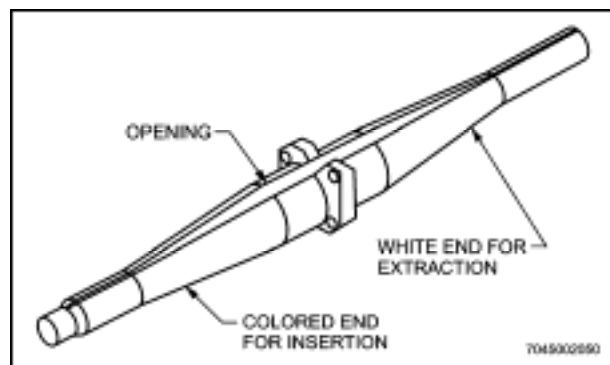
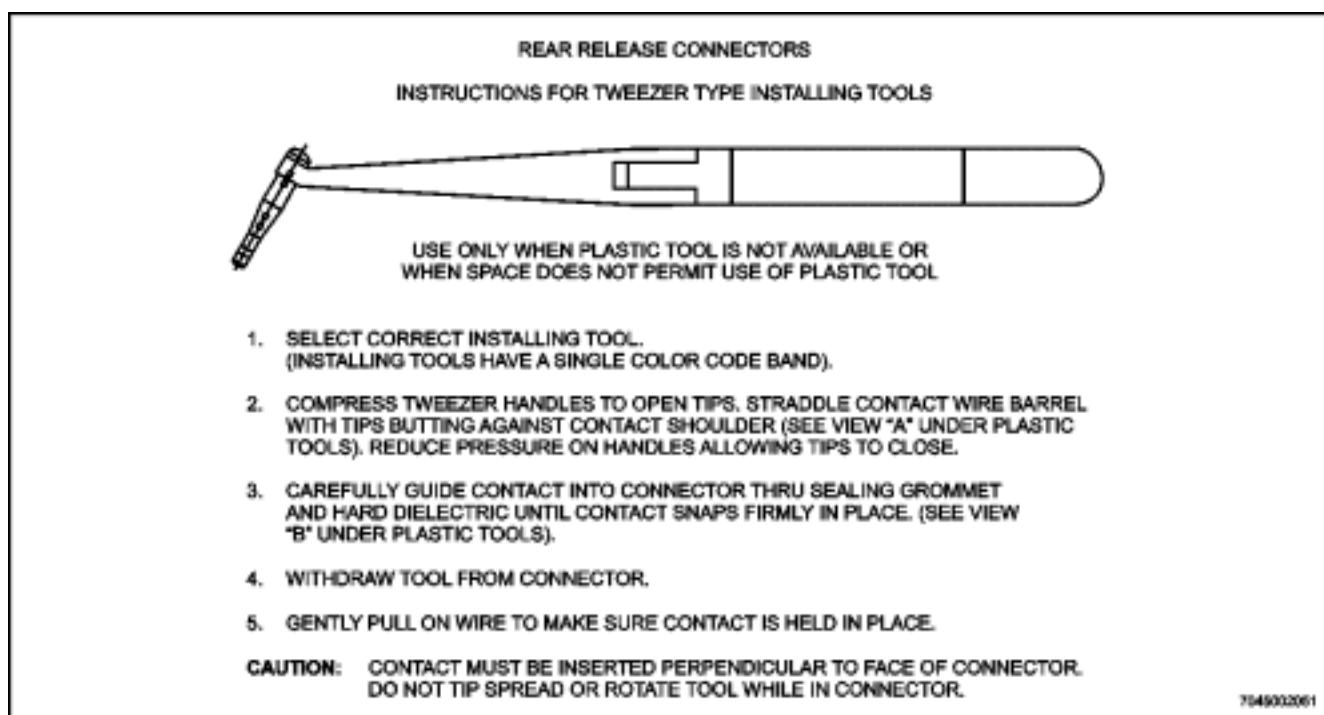
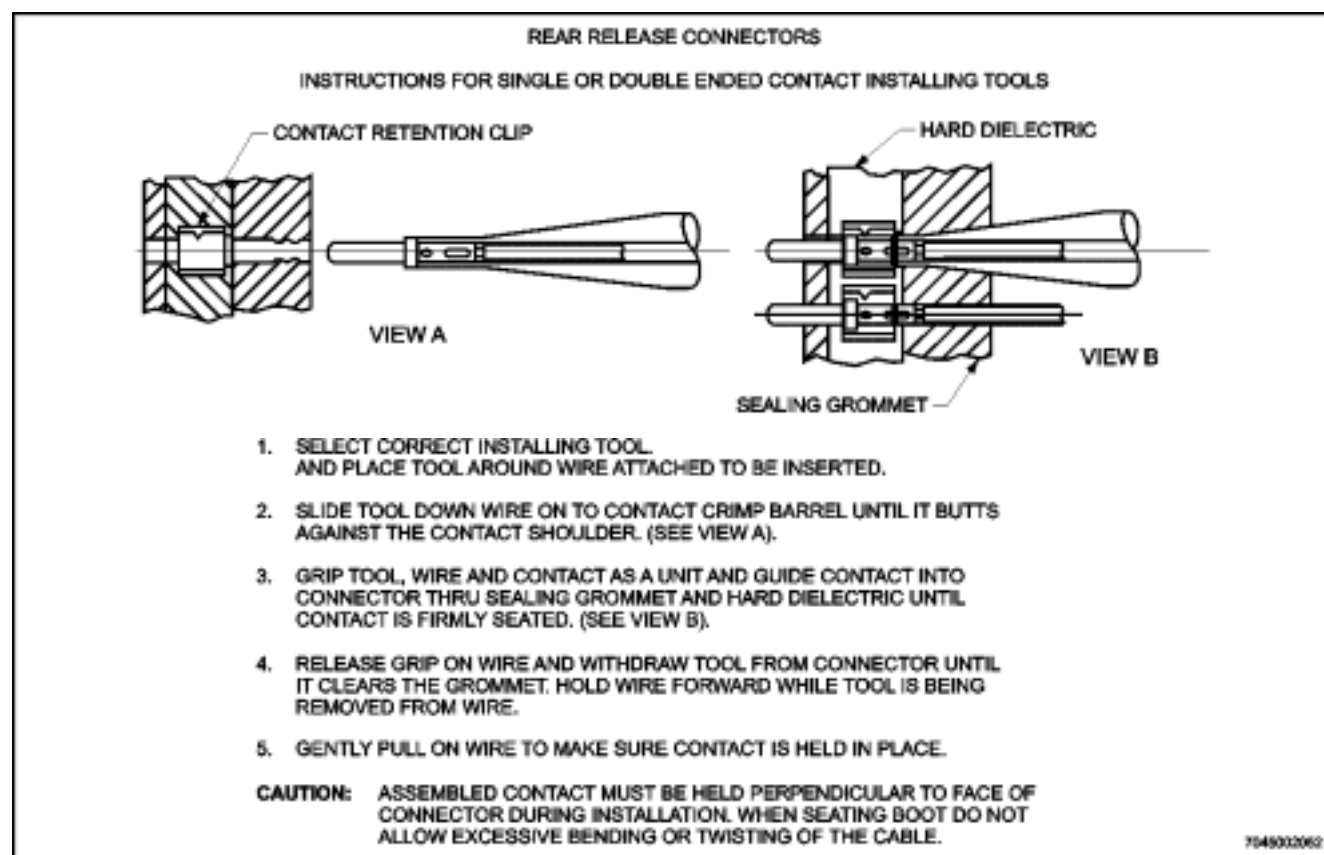

Figure 10-22 Insertion and Extraction Tool For Rear Release Crimp Contacts
Figure 10-23 Tweezer Type Installing Tools
Figure 10-24 Single or Double Ended Contact Installing Tools
49. There is a separate tool for each contact size. The tools may be plastic or metal, single or double ended tools (see Figure 10-22) or metal tweezer type tools (see Figure 10-23). See Figure 10-23 and Figure 10-24 for contact installation instructions. See Figure 10-25 and Figure 10-26 for contact removal instructions.